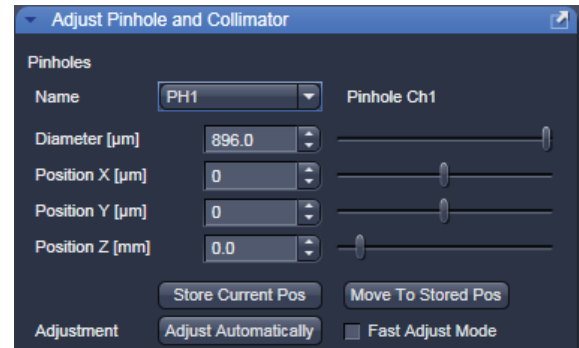

Fig. 4-127 Manual pinhole adjustment
- Click the LSM **Continuous** action button to start a continuous scan. Optimize the pinhole position in X, Y and Z (Z only for PH1) relative to the PMT using the **Position X [μm]**, **Position Y [μm]** and **Position Z [μm]** sliders to maximum image brightness (see Fig. 4-127).